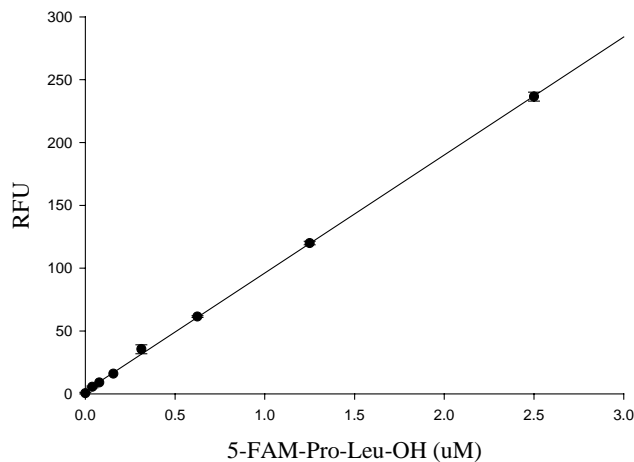

Figure 1. 5-FAM-Pro-Leu-OH reference standard curve.
- Plot data as RFU versus concentration of test compounds or enzyme concentration (Figure 1).
- The sensitivity of this FRET-based assay was showed as in **Figure 1**.
- Plot 5-FAM fluorescent reference standard as RFU (relative fluorescent unit) versus concentration as in **Figure 1**.